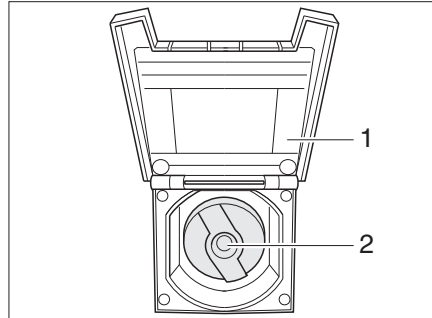

Fig. 338 Cap for the drinking water filler neck
- Open the cover flap (Fig. 338,1) of the drinking water filler neck. The cover is magnetically affixed to the outside wall of the vehicle.
- Insert key into locking cylinder (Fig. 338,2) and turn a quarter turn in an anti-clockwise direction.
- Open drinking water filler neck (Fig. 338).